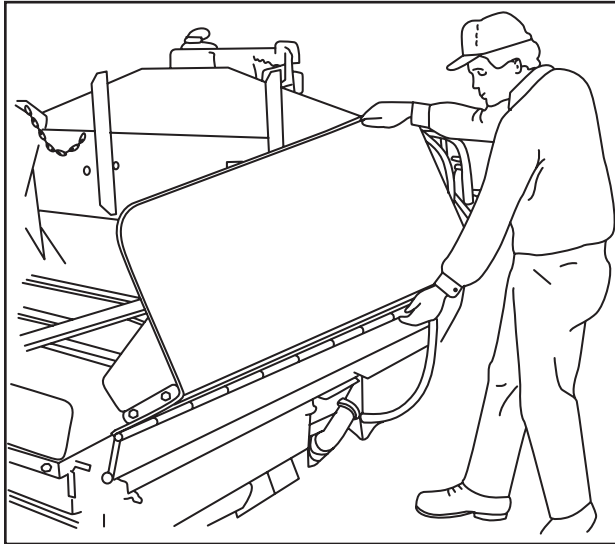

FIGURE 4-4. SIDEWINGS
2. Grab top of wings and pull out 5 to 6 in. (13 to 15 cm), then pull bottom handle out till wing knuckles out (see Figure 4-4).